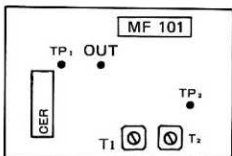

Fig. 20
- 1) Connect the vacuum-tube voltmeter to TP2 (Fig. 20).
- 3) Change the SSG output signal, making it exhibit a frequency deviation of 1 kHz or 7.5 kHz. Adjust T1 and T2 (Fig. 20) to obtain the best possible waveform display and to maximize the FM output in each case of frequency deviation.
- 1) Connect the VTVM to "OUT" (Fig. 20) terminal on the FM-IF unit (X48-1070-61).